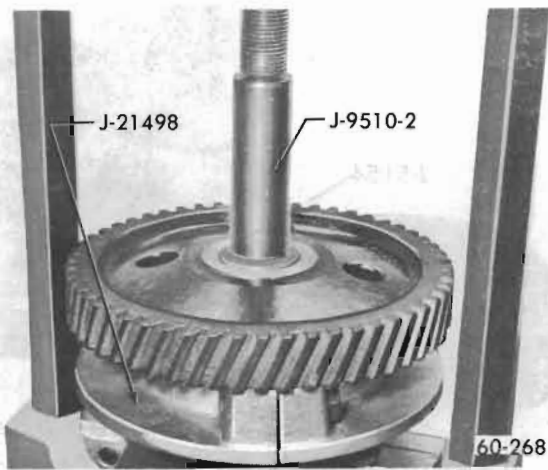

Figure 60-34 - Removing Camshaft Gear
1. If the inspection indicates that the shaft, gear, or thrust plate should be replaced, the gear should be removed from the shaft. Refer to Figure 60-34 for gear removal.